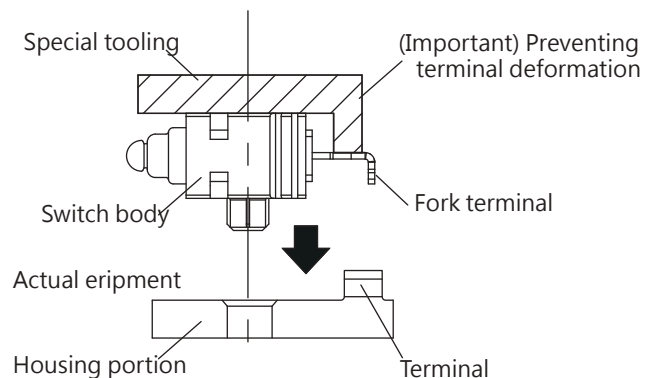

Figure-2
5. < Important > To prevent deterioration of contact reliability, fork terminals should not be deformed in any situation. In order to prevent the deformation of the fork terminals, please use a special tooling to keep the switch vertical to the actual equipment. When inserting the fork terminal to the actual equipment, please make sure the fork terminal is well-supported, As shown in (Figure-2)